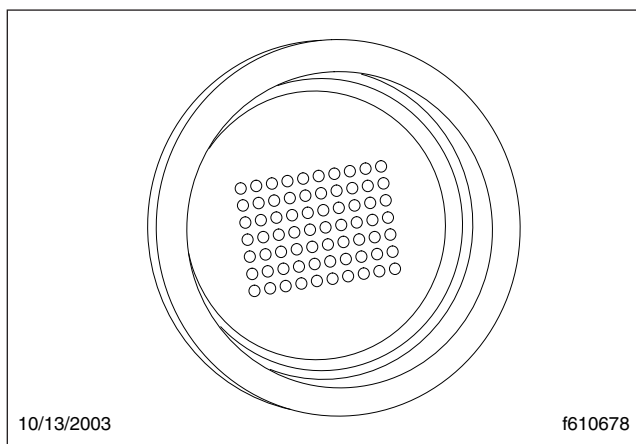

Fig. 15.8, Power-Up Dot Display
3. After the ignition is turned on, the current gear indicator shows the dot display, arranged in a square pattern. All dots in the pattern should light up, without gaps or spaces. See Fig. 15.8.